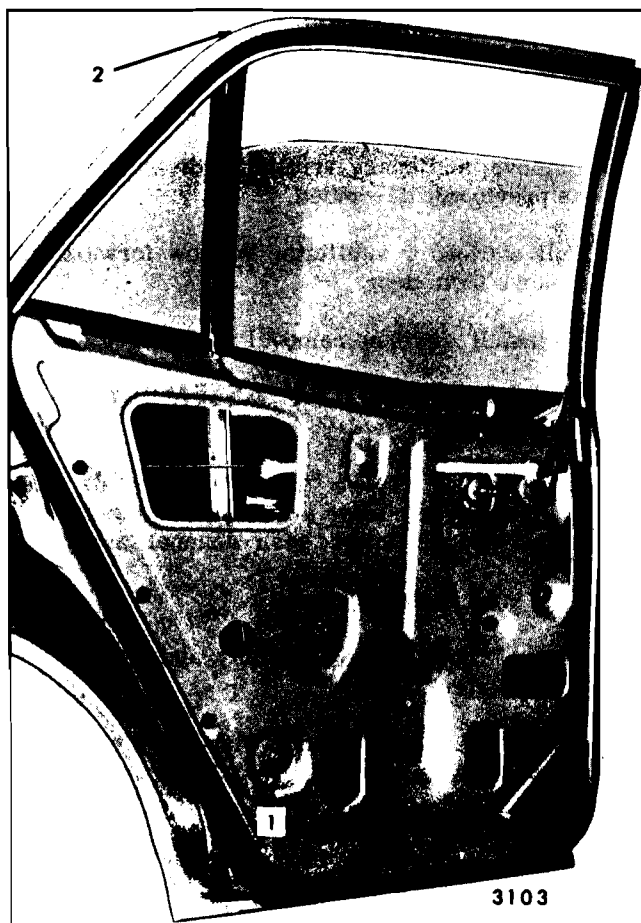

Fig. 6-126—Rear Door Window Removal and Adjustments - "X-69" Styles
1. Remove door trim assembly and detach inner panel water deflector sufficiently to gain access to the lower adjusting stud and nut ("1", Figure 6-126).
3. Remove ventilator division channel lower adjusting stud and nut ("1", Figure 6-126).
4. Carefully lower door window and remove division channel to door upper frame attaching screw ("2", Figure 6-126).
Adjustment has been provided to relieve a binding door glass due to misalignment of the ventilator division channel ("1", Figure 6-126).